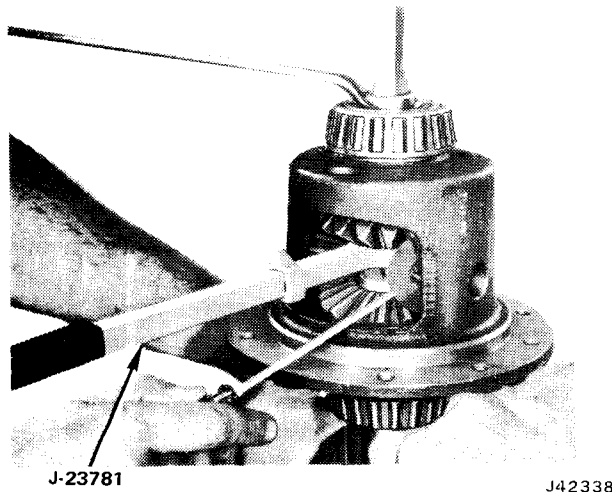

Fig. 10-77 Installing Pinion Gear Thrust Washers
(11) Tighten forcing screw to compress Belleville springs and provide clearance between teeth of pinion gears and side gears.
(12) While holding pinion gears in place, insert pawl of rotating tool between teeth of side gear. Pull on handle to rotate gear and allow pinion gears to be installed.
(13) Pull on tool until handle hits gear. Remove pawl from between gear teeth and reposition handle and pawl. Repeat same operation until holes of both pinion gears are aligned with those of case.
(14) Lubricate both sides of pinion gear thrust washers with Trac-Lok lubricant.
(15) Apply torque to forcing screw to allow installation of thrust washers.
(16) Install washers in case. Use small screwdriver to push washers into place (fig. 10-77).